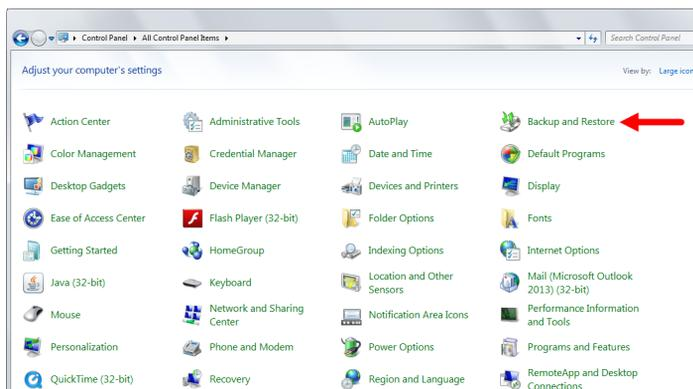

Figure 2 Windows 7 Backup and Restore
- **In Windows 7**, click **Backup and Restore** in the Windows Control Panel (Figure 2).